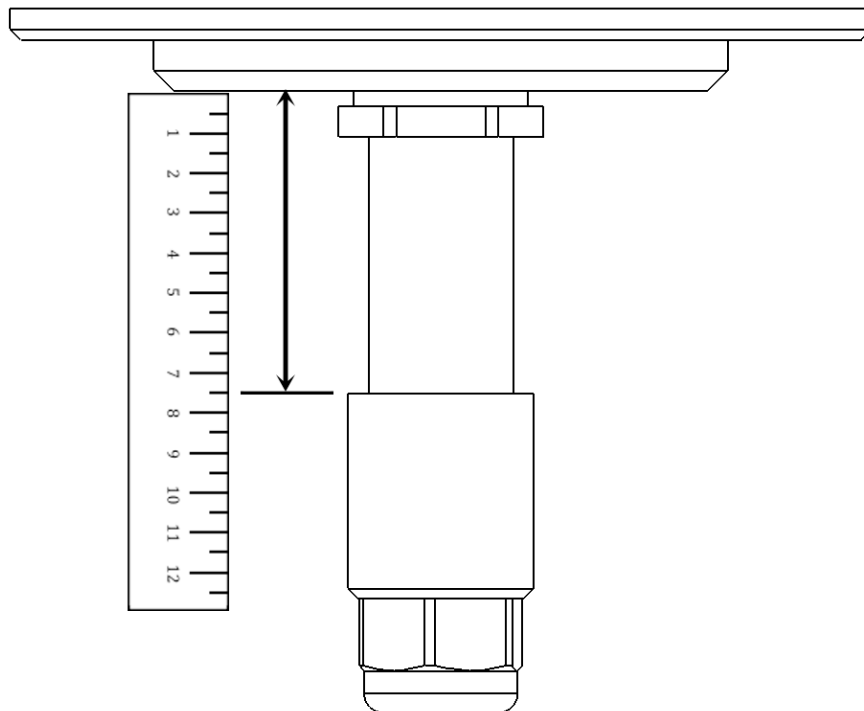

Figure 3-9 - Field of View Adjustment (Not to Scale)
2. Using a ruler, lower/raise the Fiber Adaptor under control to the desired distance measured from the base of the Fiber Mounting Plate, to the shoulder of the Fiber Adaptor as shown in Figure 3-9.
*Distance is measured as shown in Figure 3-9